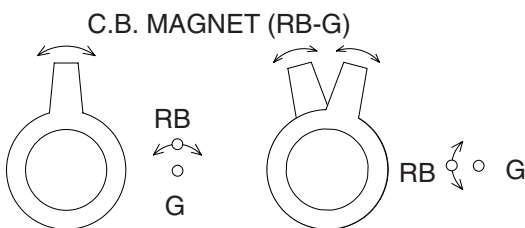

Fig. 11
3. Align red / blue with green dots at the center of the screen by rotating (RB-G) C.P. Magnet. (See Fig. 11.)